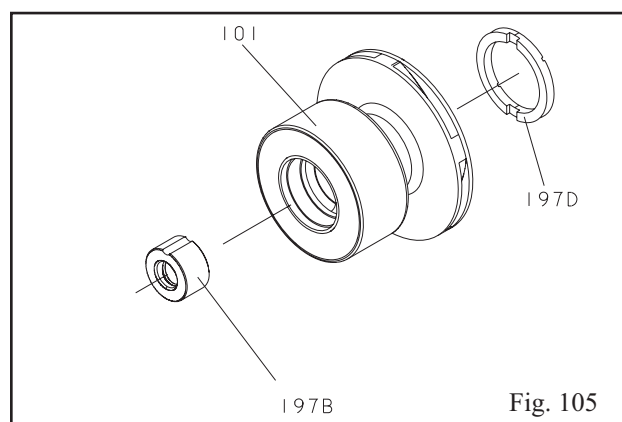

Fig. 105
2. Turn impeller over and install impeller thrust bearing (197D). Line up the two slots in the impeller thrust bearing to the two tabs in the impeller (Fig. 105).